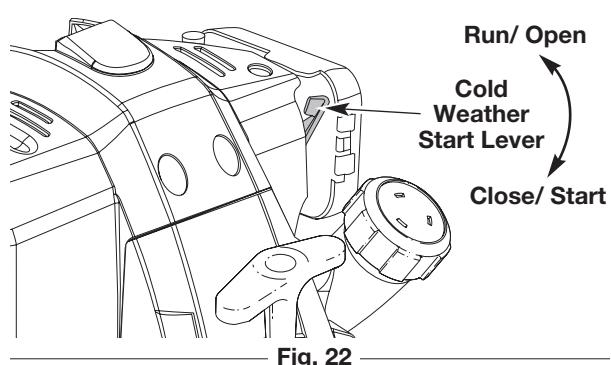

Fig. 22
- IF COLD...** For cold weather conditions (below 40°F), flip the Cold Weather Start Lever (Fig. 22) down to the start/closed position and continue to step 3. DO NOT flip this lever down if the temperature is above 40°F.